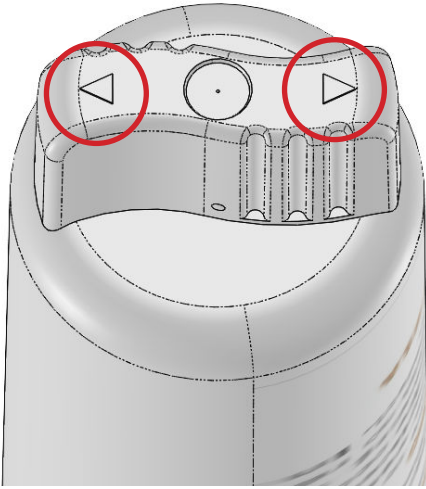
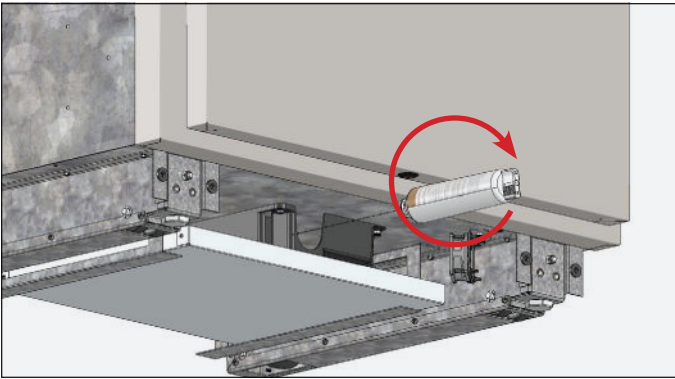

FIG. 5. Water filter handle arrow locations.
FIG.6. Insert the water filter and rotate it clockwise.
5. With the handle arrows (see fig. 5) vertical, insert the water filter into the filter receptacle. See fig. 6.
6. Rotate the water filter clockwise until the filter stops turning. See fig. 6 and 7.